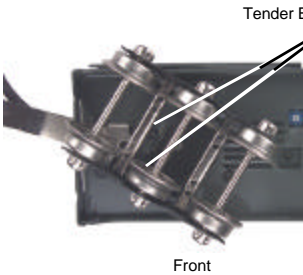

Figure 10
1. Remove the body from the chassis by removing the 6 screws shown in Fig. 10 and 11.